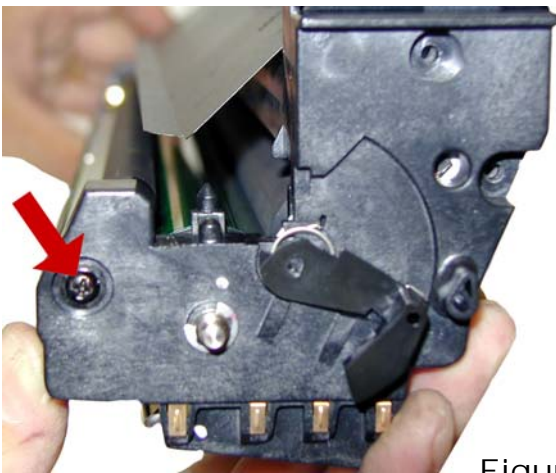

Figure 63
41) Install the two black screws to hold the waste chamber in place. One on each side. See **Figures 63 & 64**